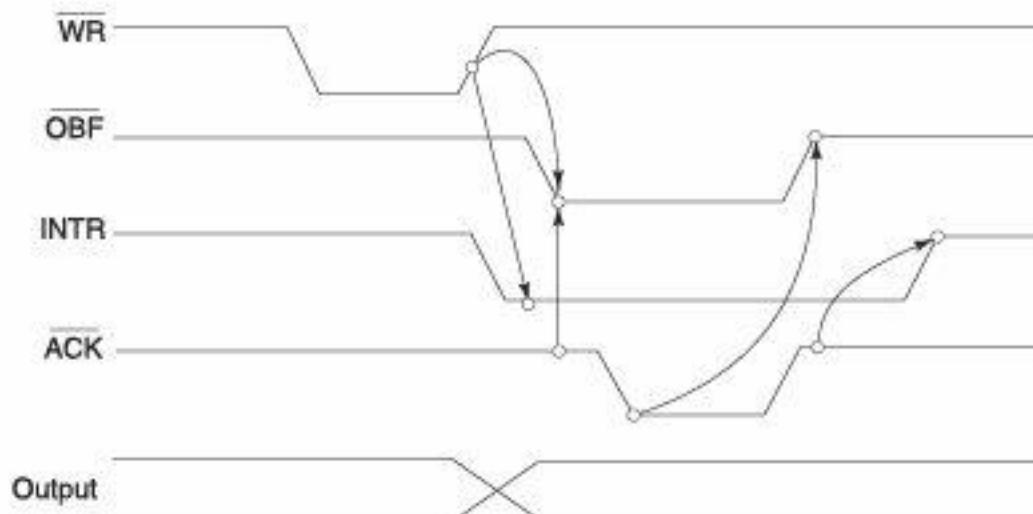

Fig. 5.11 Timing Waveform for Strobed Output with Handshake in Mode 1.
**OBF (Output Buffer Full):** This is an output signal that goes low when the MPU writes data into output latch of 8255A. This signal indicates to an output peripheral that new data is ready to be read as shown in Figure 5.11. It goes high again after the 8255A receive an acknowledgement from peripheral.
**ACK (Acknowledgement):** This is an input signal from a peripheral that must output a low, when the peripheral receives the data from 8255A ports (Figure 5.11).
**2. Status word to check  $\overline{\text{OBF}}_A$ :** It is checked by masking address with status word as shown in Figure 5.11(b). The OBFA bit is set to 1 and it is given as:
In the print subroutine, the character is placed in the accumulator first and then the status is read by the instruction “IN FEH”. Initially, the port A is empty, bit  $\text{PC}_1$  ( $\overline{\text{OBF}}_A$ ) is high. The instruction “OUT FCH” send the first character to port A. The presence of data byte in port A is indicated by  $\overline{\text{OBF}}$  signal, when it goes low in the rising edge of  $\overline{\text{WR}}$  signal as shown in Figure 5.11(c). After receiving a character, the printer sends back an acknowledgement signal, which in turn sets  $\overline{\text{OBF}}_A$  high, and indicate that the port A is ready for next characters, and print subroutine continues.